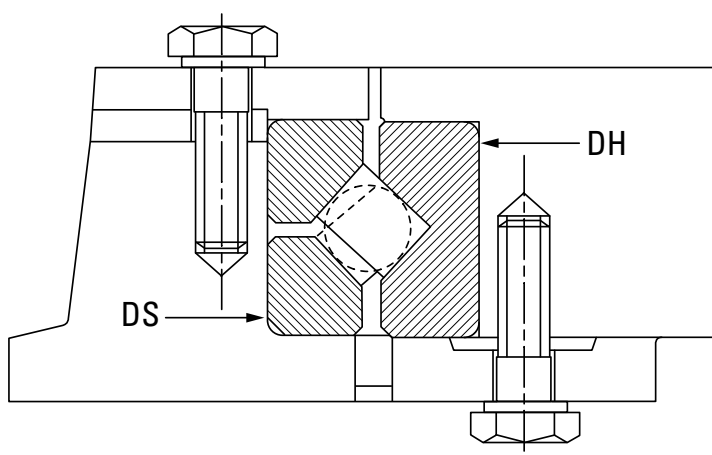

Fig. 124. Fitting and setting of TXR bearings.
The bore of the housing (DH) and the diameter of the spigot (DS) (fig. 124) should be machined to give a mean of the suggested interference fits (pages 178-179).
The bearing is adjusted externally by segments beneath the top inner-ring clamping plate (fig. 124) to get the required preload.